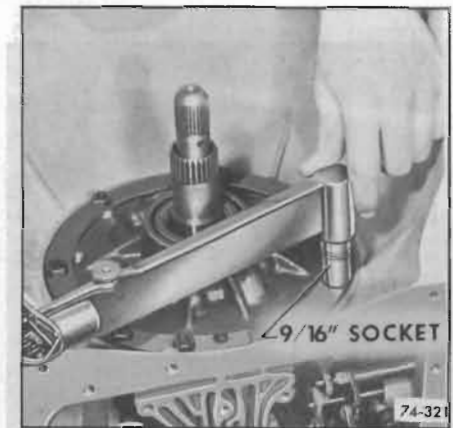

Figure 74-321
6. Torque the eight (8) pump retaining bolts to 16-24 lb. ft. See Figure 74-321.